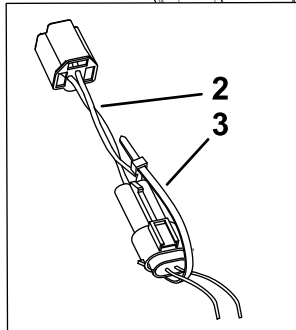

Figure 3
4. Secure the electrical connector on the headlight adapter to the machine wire harness electrical connector with the cable ties (Figure 3).